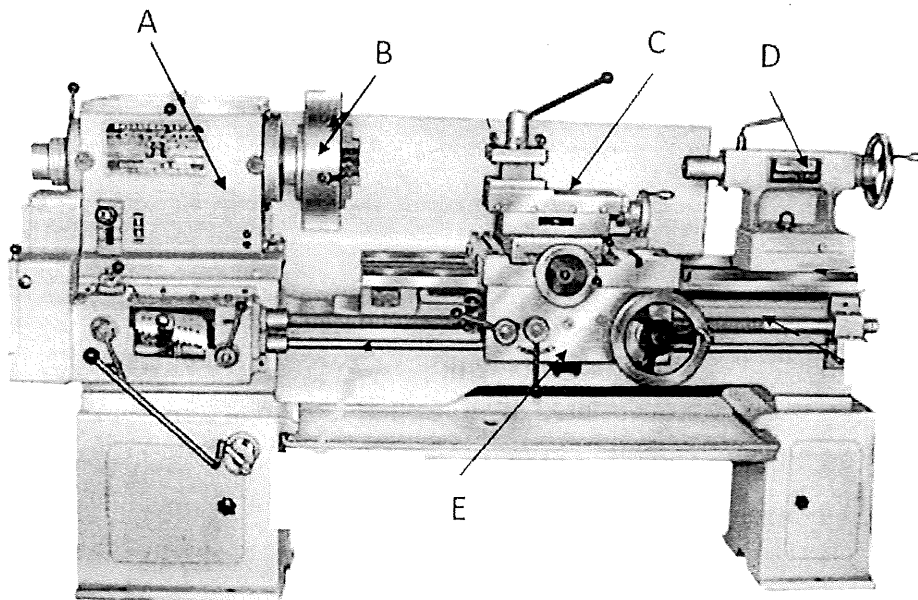

Figure 3
- a) **Name** five (5) shapes of files. (5 marks)
- c) **Classified** three (3) types cutting roughness of the files. (6 marks)
- a) **Name** two (2) types of drilling machine. (2 marks)
- b) **Give** two (2) examples of tool holding devices and two (2) examples of work holding devices use at drilling machine. (4 marks)
- c) Referring to Figure 3 **name** parts of lathe machine that label with A, B, C, D & E. (5 marks)